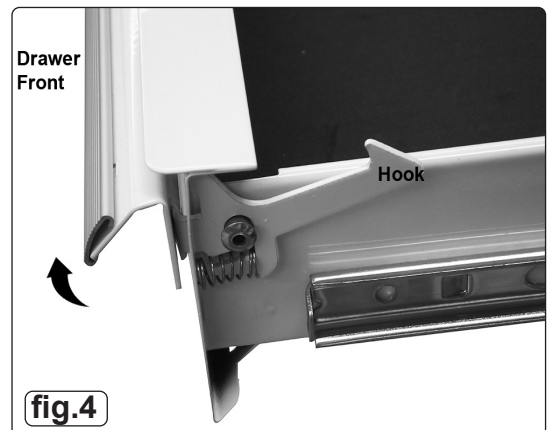

fig.4
- 5.1.1. To open: lift the drawer front whilst pulling it out (fig.4).
- 5.1.3. If the drawer does not latch, the hook (fig.4) may be misaligned or binding. Bend the hook gently until it is parallel to the drawer edge and engages when closed